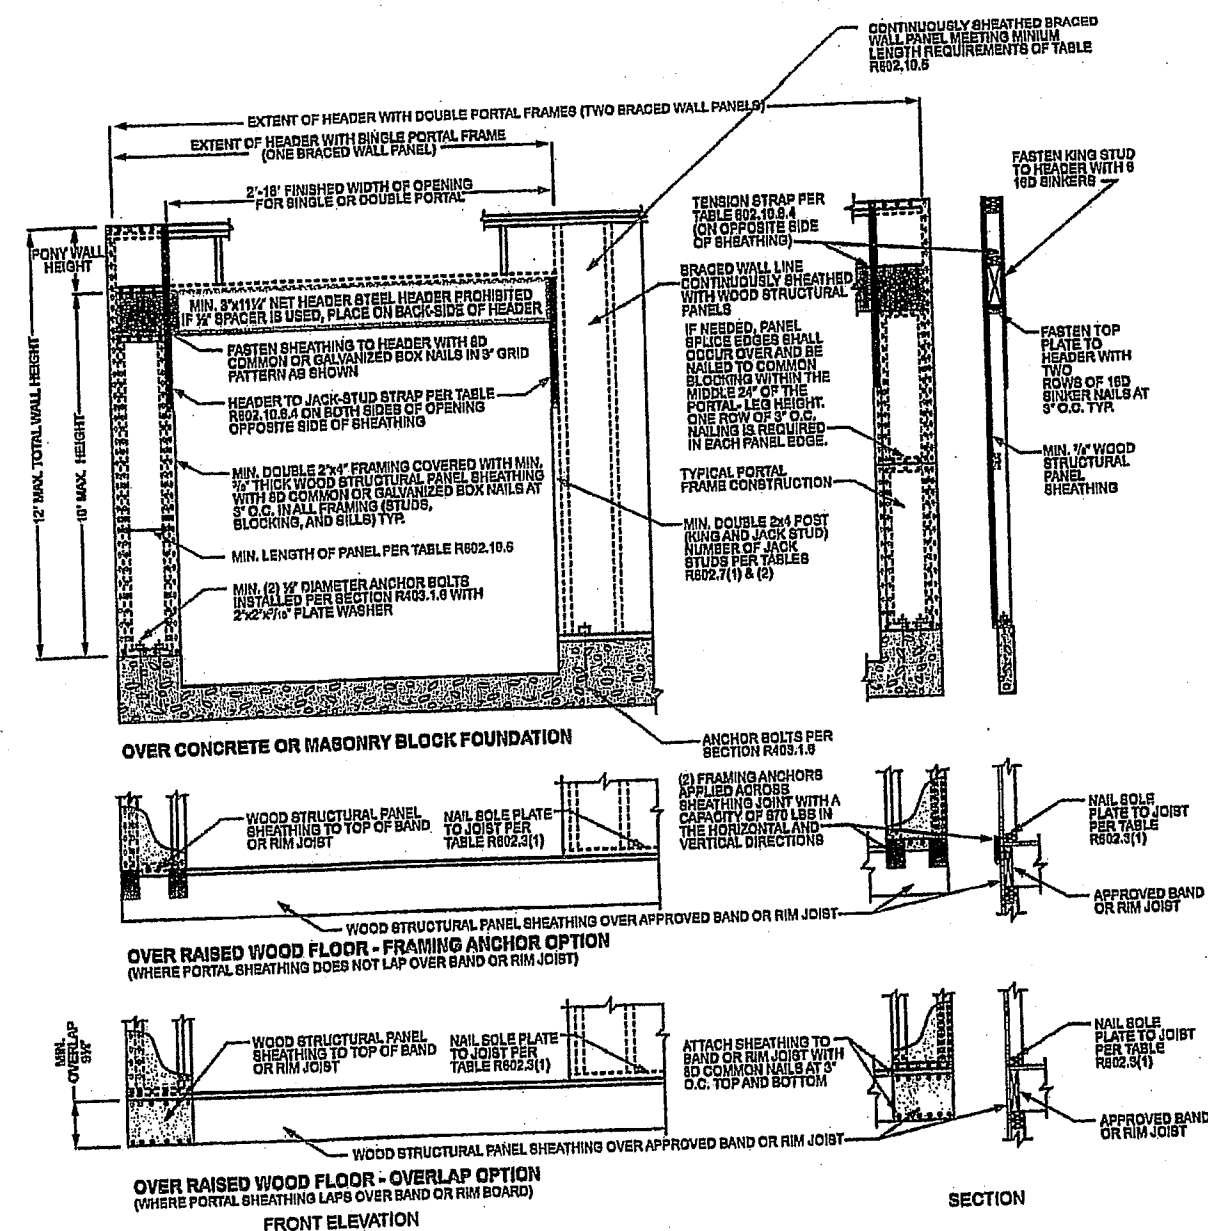

FIGURE R602.10.6.4
c. Maximum header height for PFH is 10 feet in accordance with Figure R602.10.6.2, but wall height shall be permitted to be increased to 12 feet with pony wall.
d. Maximum header height for CS-PF is 10 feet in accordance with Figure R602.10.6.4, but wall height shall be permitted to be increased to 12 feet with pony wall.
e. Maximum header height for CS-PF is 10 feet in accordance with Figure R602.10.6.4, but wall height shall be permitted to be increased to 12 feet with pony wall.